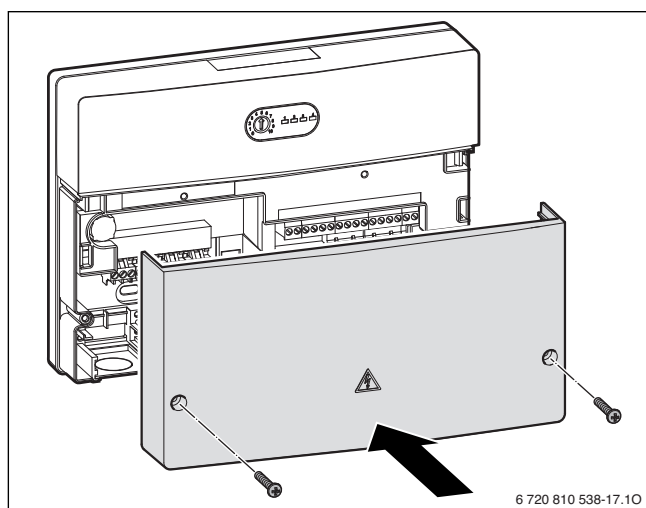

Fig. 12 Attaching the cover
- ▶ Before commissioning: Install the cover (→ Fig. 12, page 8).